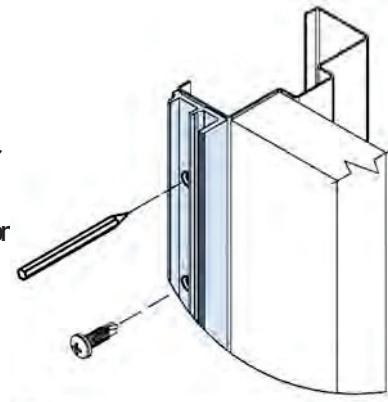

Fig. 2
- Place male portion of Latch Guard on face of frame as shown (Fig. 2) using the correct vertical spacing, and while making sure that this piece is flush with the frame and not overhanging far enough to interfere with the door, fasten firmly in place using the supplied self-drilling panhead hardware in the six holes provided. You may also mark the fastener holes in the frame first with a pencil or punch if desired.